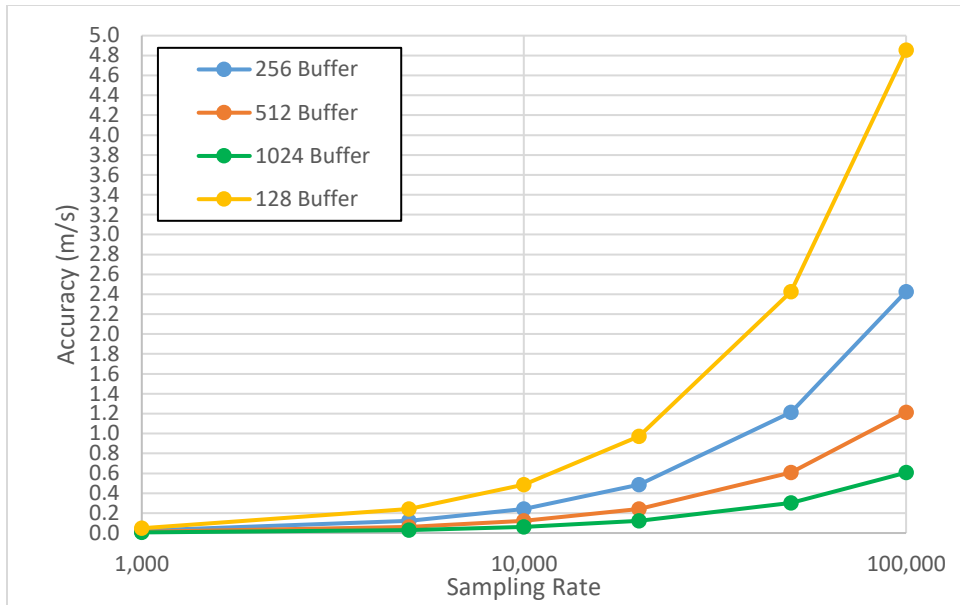

Figure 5. Doppler (-A) Buffer Size and Sampling Rate versus Resolution (no 0 padding)
**Sampling Rate/Buffer Size/Zero Padding (-A, -C Doppler)** – set these values to control the sample rate of the module. This setting influences the output data and the rate at which the data is reported. The buffer size influences the report rate and resolution. A buffer size of 512 will have a report rate between 5-30Hz. The resolution becomes worse by a factor of two with a 512-buffer size versus 1024 (Figure 5) and worse again at 256 buffer size.